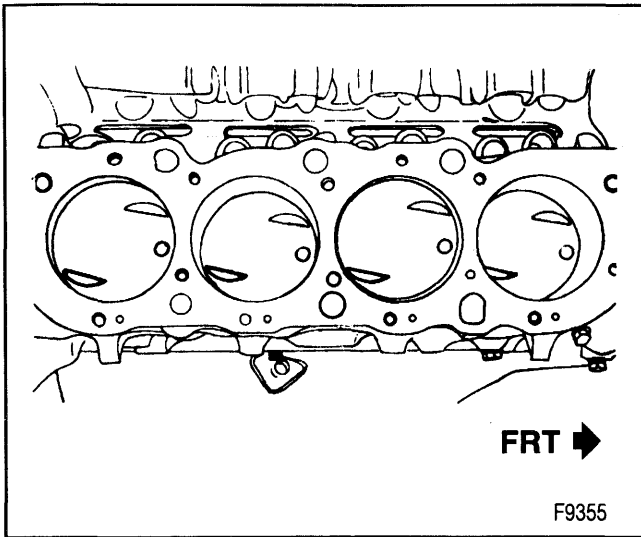

Figure 28—Piston Installed
- The piston must be installed so that the dimple faces the front of the engine (figure 28).